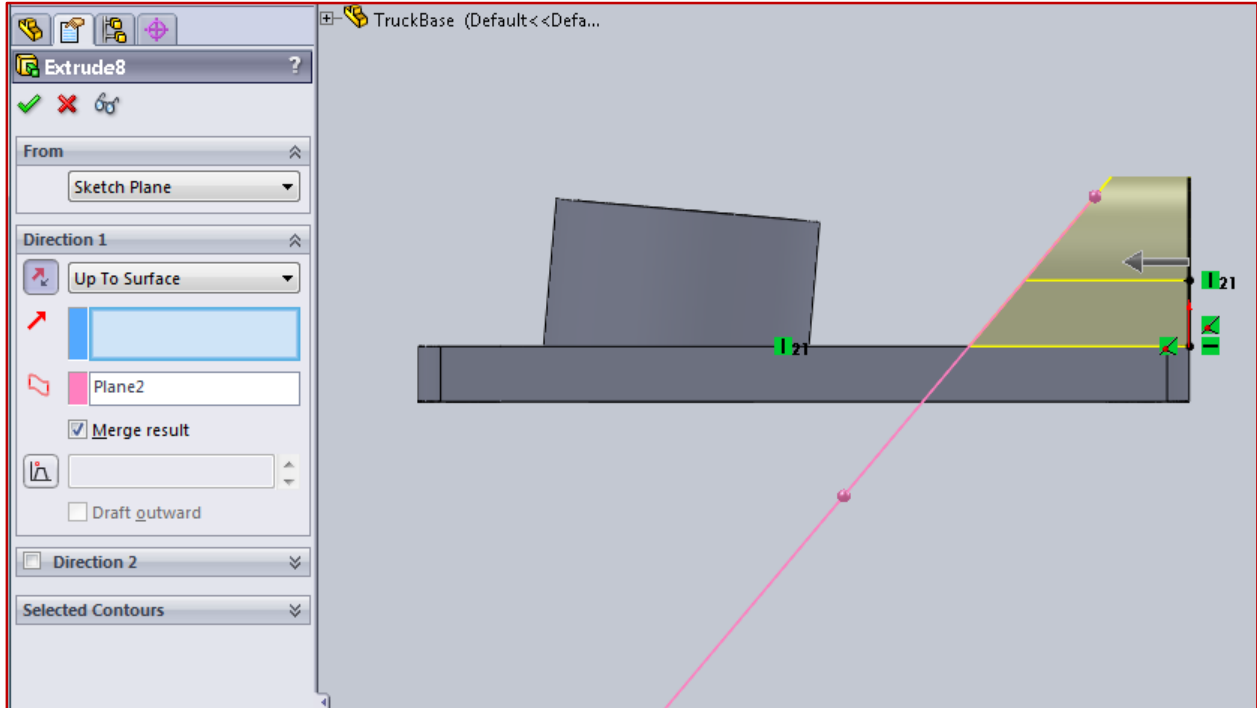

Figure 8.12 – Extrusion of the Pivot Pocket
Step 70: Extrude the cross-section from the sketch plane to the plane that was rotated earlier to 128 degrees. The Extruded Boss/Base input panel is shown in Figure 8.12. Notice that the extrusion is **Up To Surface** and the surface is the plane created earlier.